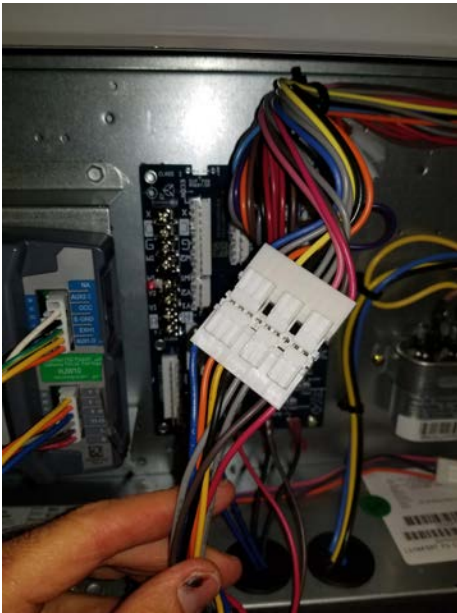

Figure 9 – Connect 10-pin Plugs Together
Step 12: Connect the 10-pin female ECON plug removed from the CTB to the 10-pin male plug from the Jade controller harness. See Figures 9 and 18.